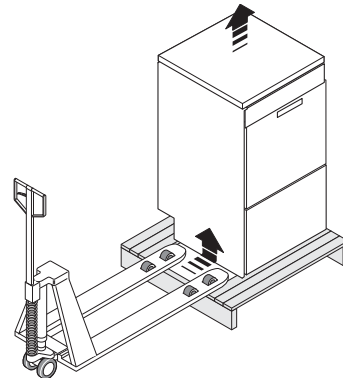

Figure 5 Machine positioning
- Lift the equipment with a lift truck, remove the base and position it the place of use (Figure 5).